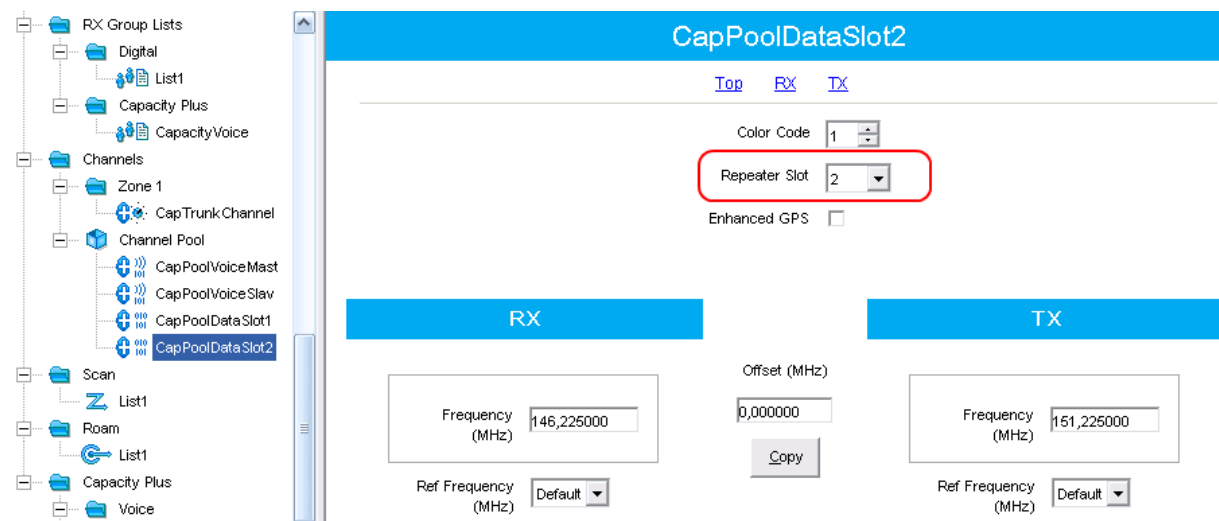

Fig. 23 - Creating channel pool for Slave (Data revert) repeater Slot 2
4. Create channel pool for slot 2 of Slave (DataRevert) repeater (Fig.23).